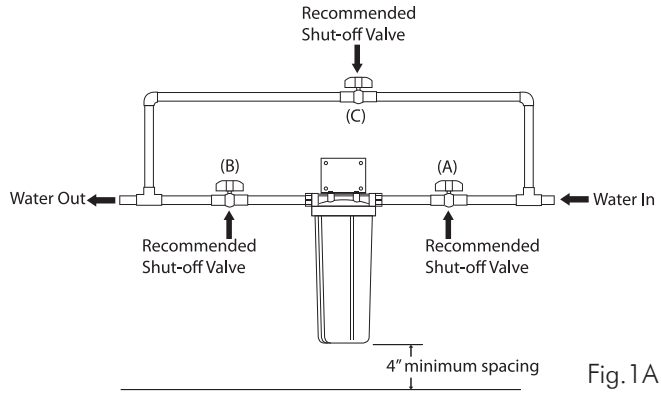

Fig. 1A
3. Whole house water filter setup (Fig 1A,2A,3A):
1. Turn off water to the filter. Water must be shut off from **Valve A** (and **Valve C** if it is installed). **See Fig. 1A**, Page 2